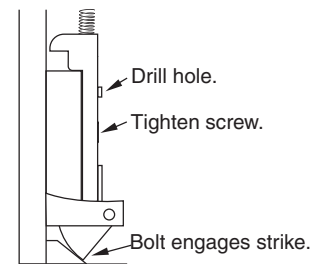

Figure 19
2. Position frame so that latch just engages strike. (Figure 19)